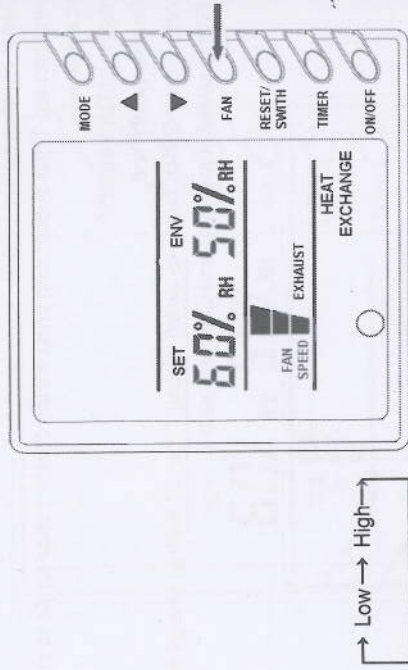

Fig.4
- (2) During air discharge and air supply, with each press of FAN button, the fan speed with switch between high speed and low speed(Fig.4).